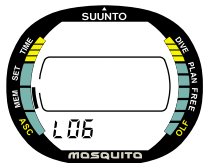

Fig. 5.2. Logbook memory mode
1. In the Memory Mode [MEM], press **S** to select the Logbook Memory Mode (Fig. 5.2.). The LOG text appears at the bottom of the display to indicate the selected mode.